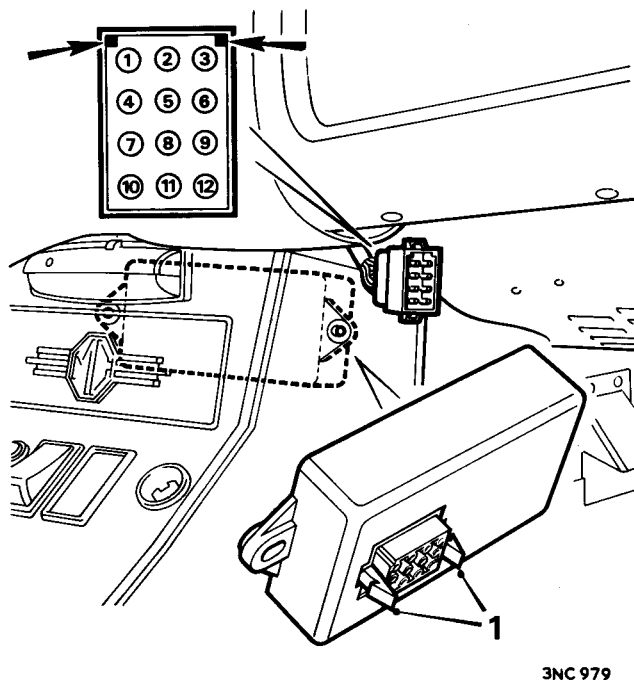

Fig. Na.8
*Sequential seat belt system control unit wiring harness plug pin identification numbers. The arrows indicate the plug polarizing keys. Compress the two retaining tags (1) to withdraw the plug from the control unit.*
- (1) Batteries in good condition.
- (2) 500 milliamp. line fuse and the 35-amp. fuse connecting fusebox terminals 5 and 6 in good condition.
- (3) Gear lever in neutral position.
- (4) Hand brake applied.
- (5) Compress the two retaining tags (see Fig. Na.8) on the front of the seat belt system control unit and disconnect the wiring harness plug from the control unit.
Referring to Figs. Na.8 and Na.9 for circuit diagram and wiring harness plug pin identification numbers, carry out the following test procedure, using a 12-volt 2.2-watt test lamp and a length of insulated cable.